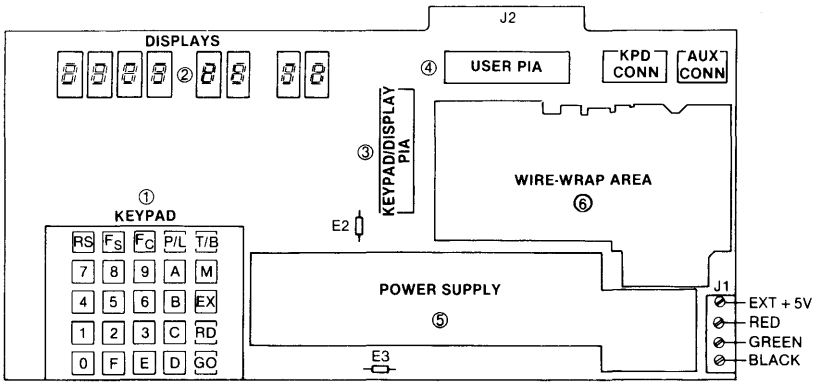

Fig. 7-10. MEK68KPD keyboard /power/display board.
A functional layout of each D4A board, with numbered references, is provided in Figs. 7-10 and 7-11. An explanation of each numbered reference follows.
MEK68KPD Keyboard/Power/Display Board (Fig. 7-10)
5. *Power supply*—The MEK68KPD contains two +5-Vdc power supplies. One supply is used to drive the 8 LED displays via regulator VR1 and the other used to supply power for the D4A logic via regulator VR2. An external 18-V center-tap transformer is supplied with the system and is to be connected as shown in Fig. 7-10.
CAUTION: The on-board supply is designed to provide only enough power for the *minimum* system configuration. If additional devices are added, an external supply is required. To connect an external supply you must first remove the E2 and E3 connecting links. This will prevent damage to the on-board supply regulators. Then, connect the external TTL quality +5-Vdc source to the J1 connector as shown in Fig. 7-10.